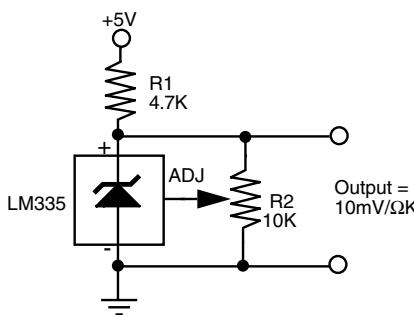

FIGURE 39.4 The basic wiring diagram for the LM335 temperature sensor.
Because the output of the smoke alarm detector is often an oscillating signal, there is no effective way to measure the peak voltage by using a volt-ohm meter. The meter will only show an average of the voltage provided by the circuit. If you are limited to using only a volt-ohm meter for your testing, for safety's sake add the 5.1-volt zener circuit as shown in Fig. 39.4. While this may be unnecessary in some instances, it will help protect your digital interface from possible damage caused by over-voltage from the smoke alarm circuit board.
Fig. 39.4 shows a basic but workable circuit centered around an LM335 temperature sensor. This device is relatively easy to find and costs under \$1.50. The output of the device, when wired as shown, is a linear voltage. The voltage increases 10 mV for every rise in temperature of 1° Kelvin (K).